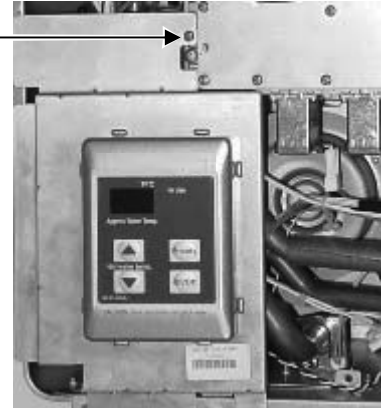

Figure 13
5. On indoor models, remove the bracket holding the controller (1 screw). (Figure 13)